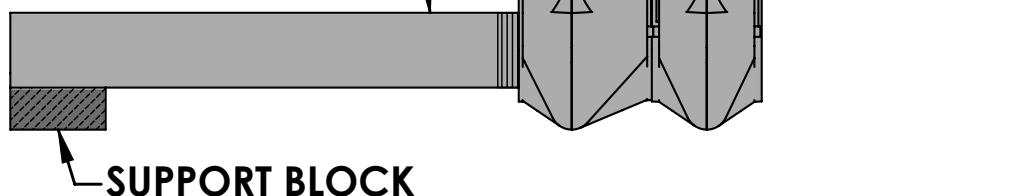

Figure 2.4: Install Additional Sections. Use level on each section as tie rod bolts are drawn up.
11. Screw a 3" pipe at least 30 inches long into the lower 3" tapping on the back of the Rear Section as shown in Figure 2.4. Place a block under the pipe as shown in the figure and use as a brace during assembly.
- a. Use a spirit level as shown in Figure 2.4 to check the alignment of the sections as the nuts are drawn up. Keep the sections plumb.